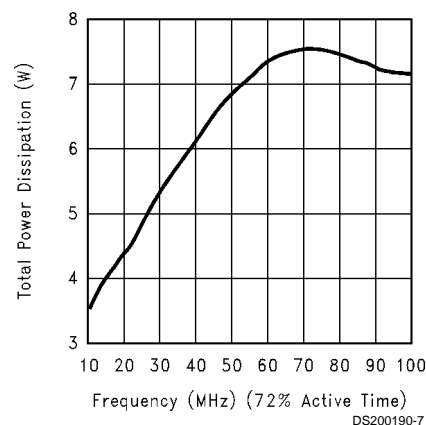

FIGURE 6. Power Dissipation vs Frequency
*Figure 6* shows the maximum power dissipation of the LM2465 vs. Frequency when all three channels of the device are driving an 8pF load with a 40Vp-p alternating one pixel on, one pixel off signal. The graph assumes a 72% active time (device operating at the specified frequency) which is typical in a monitor application. The other 28% of the time
The LM2465 case temperature must be maintained below 100°C. If the maximum expected ambient temperature is 70°C and the maximum power dissipation is 7.6W (from *Figure 6*, 75MHz bandwidth) then a maximum heat sink thermal resistance can be calculated: